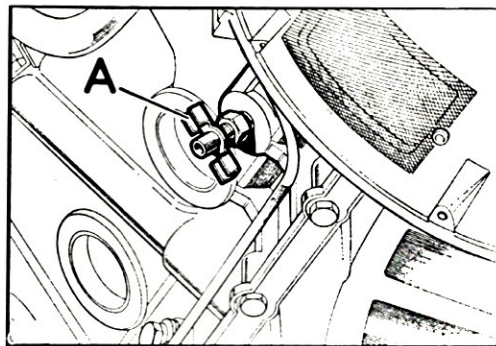

Fig. 12 Cylinder block drain tap
2. Drain and flush the system. Draining points are situated at the bottom of the radiator and two on the cylinder block—one each side of the engine. (Fig. 12)